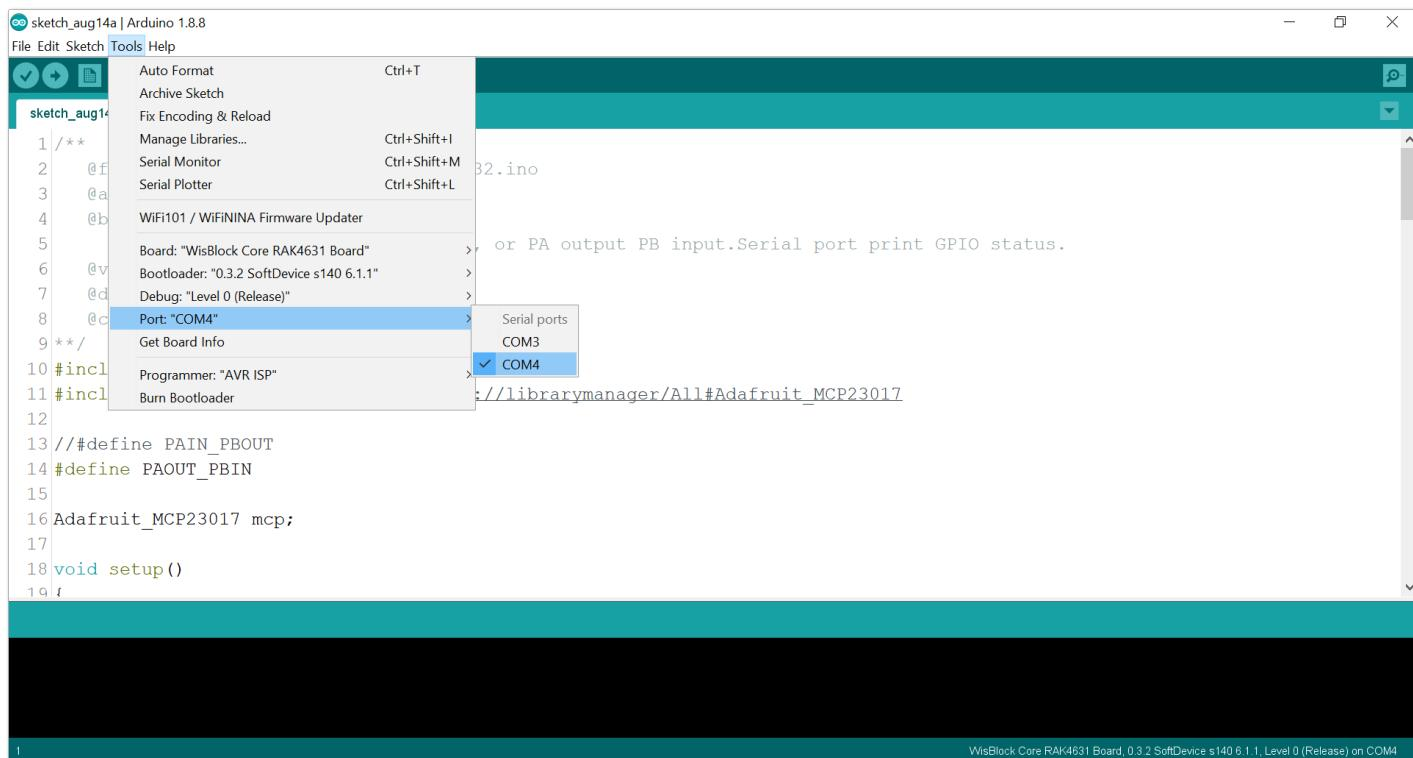
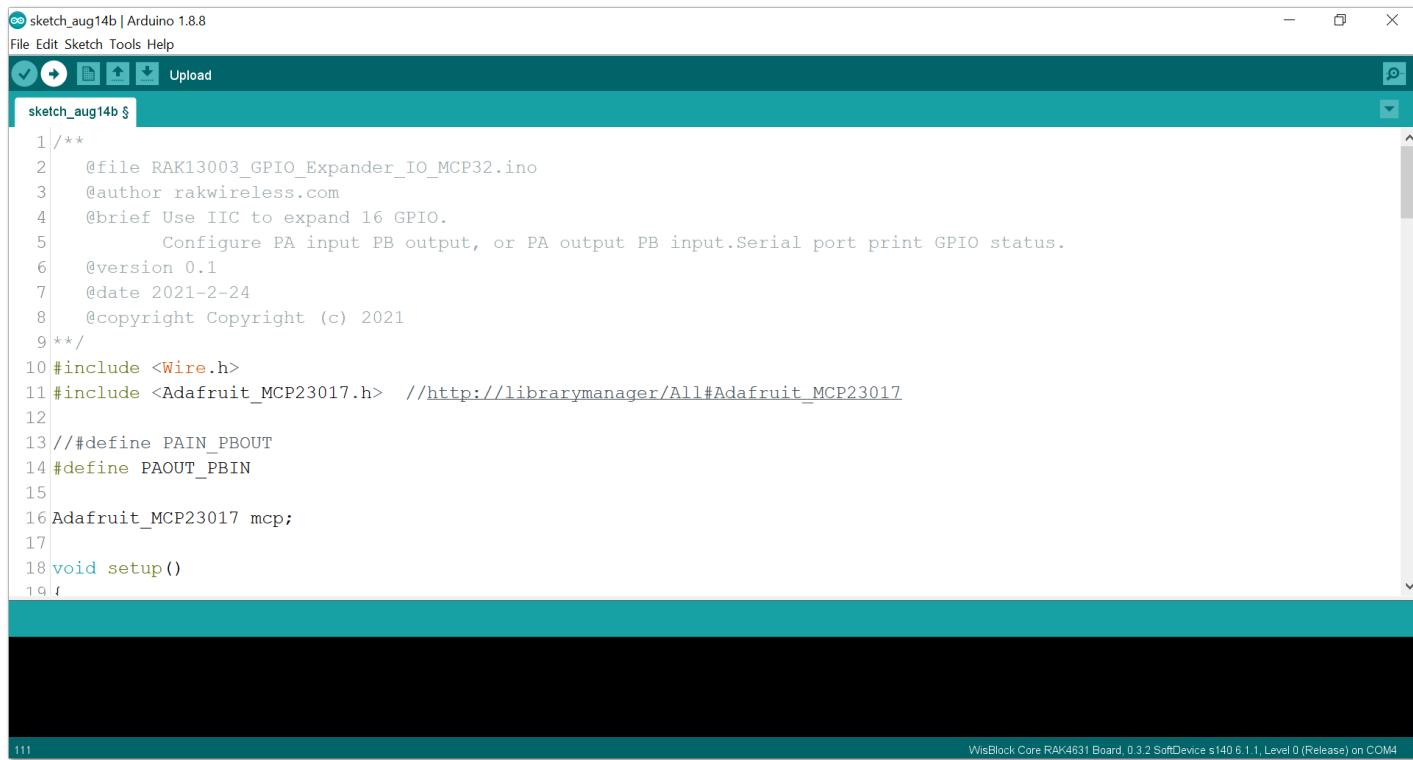

Figure 10: Selecting the correct Serial Port
Figure 11: Uploading code
5. Select the correct port and upload your code, as shown in **Figure 10** and **Figure 11**.